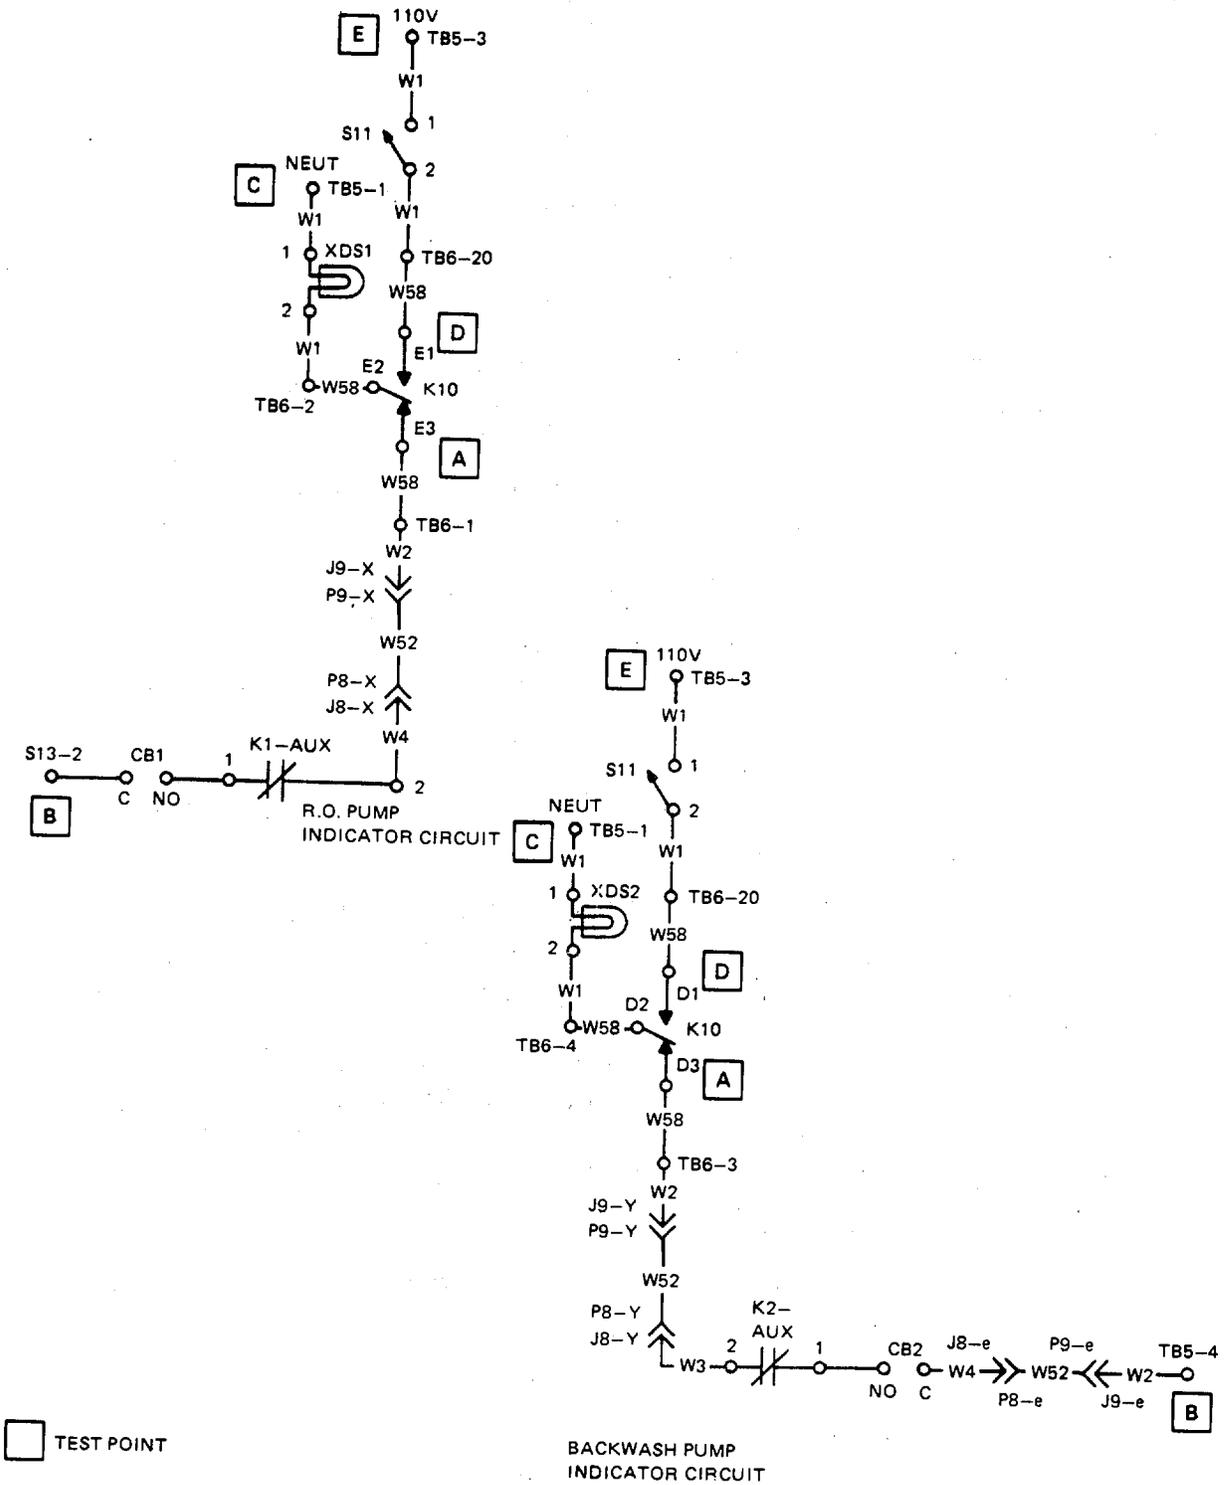

Figure 3-6. Pump Indicator Circuit Support Diagram (Sheet 1 of 2)
Refer to figure 3-6 for pump indicator circuit support diagram.
- Step 2. Refer to appropriate detail of support diagram figure 3-6. Check continuity point-to-point between test points A and B.
- Step 3. Refer to appropriate detail of support diagram figure 3-6. Check continuity point-to-point between test points A and C.